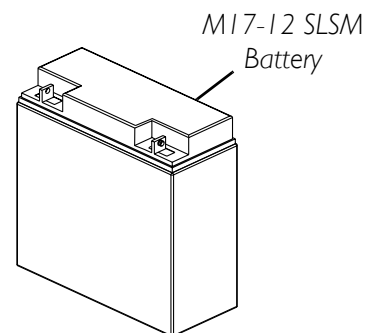

FIGURE 8.1 - RECOMMENDED BATTERY TYPE
This wheelchair uses two (2) M17-12 SLSM type batteries (FIGURE 8.1).